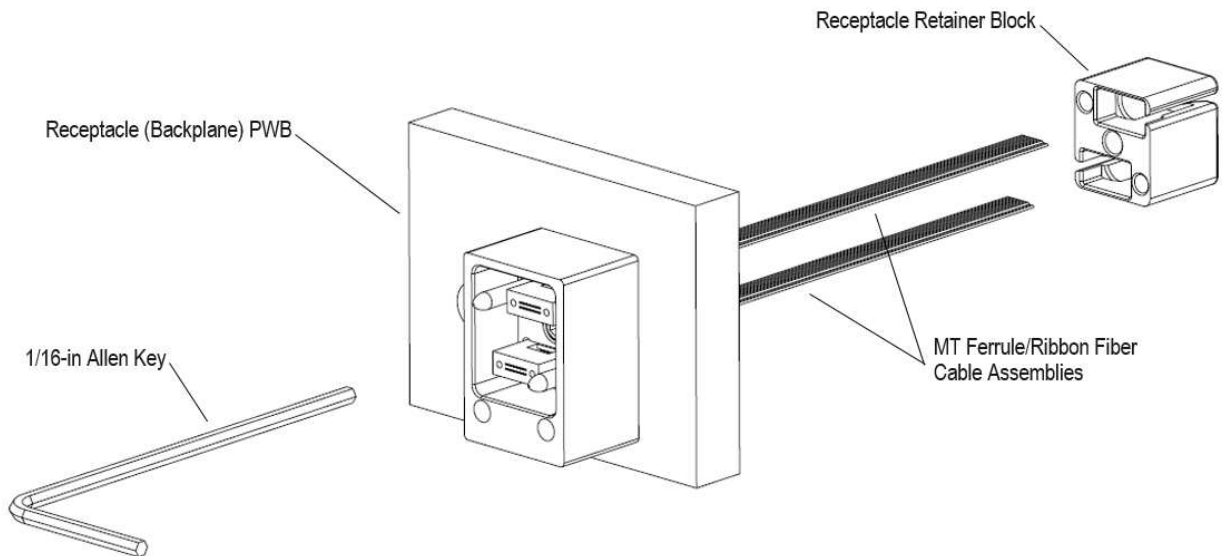

Figure 12
A. Receptacle (Backplane) Connectors (Figure 12)